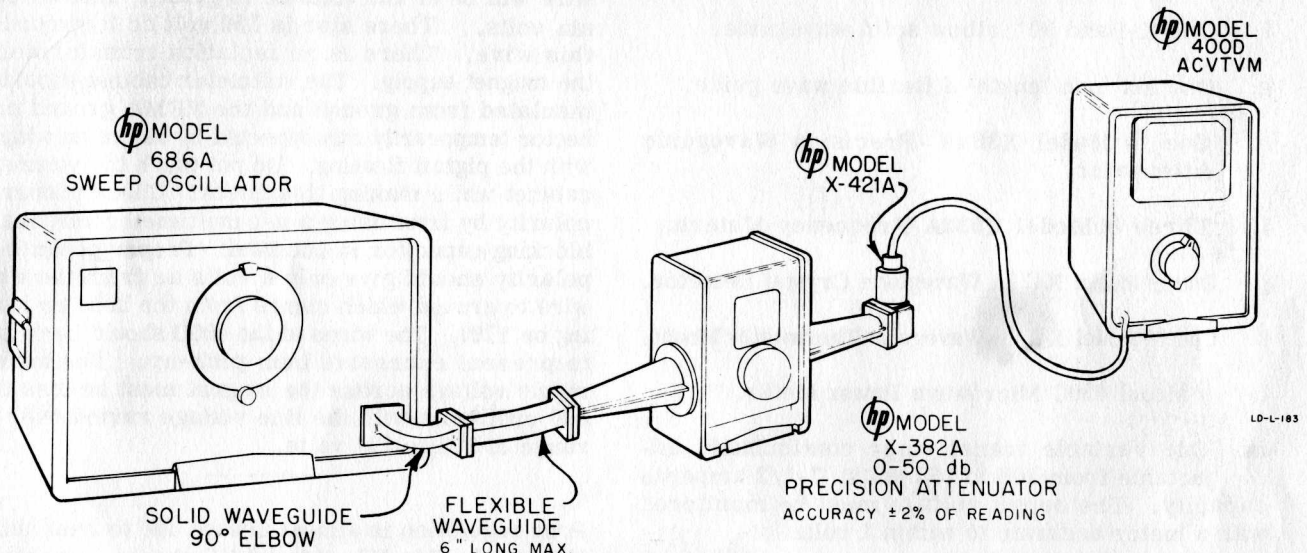

Figure 4-3. Set Up for Measuring Residual AM
- 1) Connect up equipment as shown in Figure 4-3.